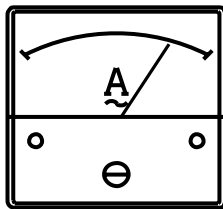

Figure 39. Ammeter (Load)
16. Observe the generator's ammeter (Figure 39) and verify it reads the anticipated amount of current with respect to the load. The ammeter will only display a current reading if a load is in use.